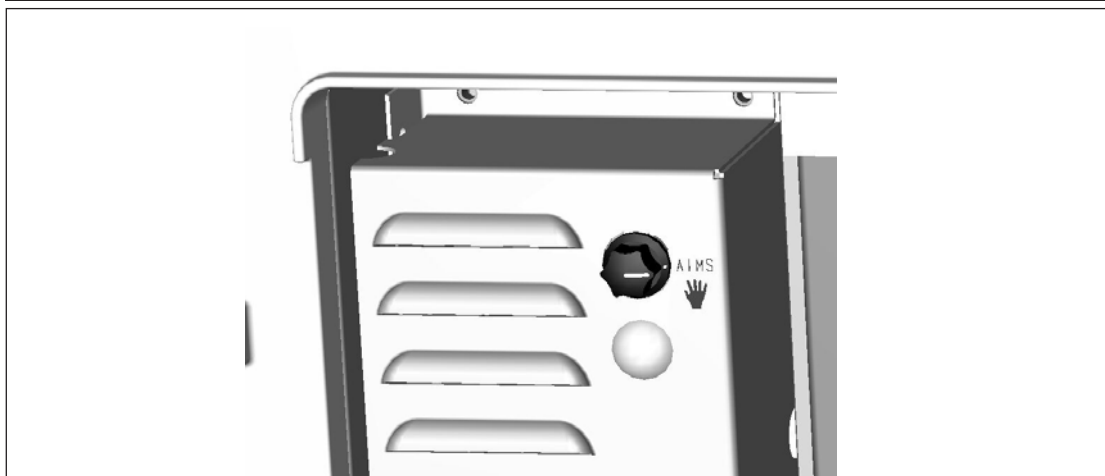

Fig. 17
2. Set the control knob on the base unit to manual  (See Fig. 17)